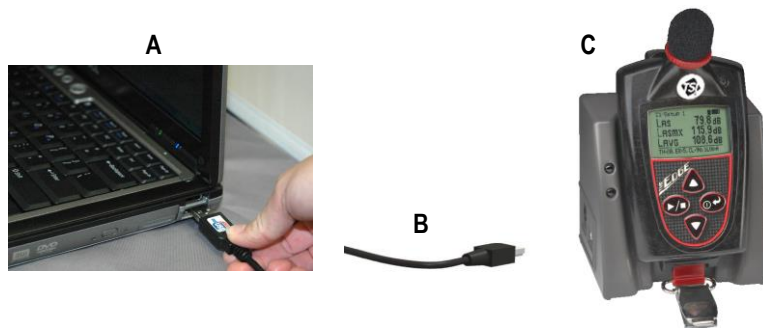

Figure 3-5: Communicating—connecting a docked Edge to a PC
4. For first time use of a docking station, **Welcome to the found new hardware wizard** will appear (see Figure 3-5). Select **No** and press **Next** through the remaining wizard. At the end of the wizard, press **Finish**.